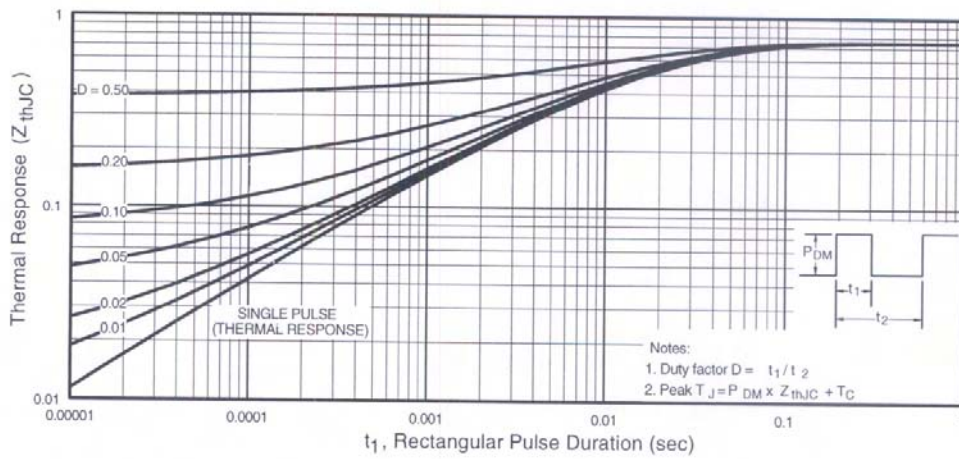

Fig 11. Maximum Effective Transient Thermal Impedance, Junction-to-Case
- ① Repetitive rating; pulse width limited by max. junction temperature. (See fig. 11)
- ② Starting $T_J = 25^\circ\text{C}$, $L = 2.4\text{mH}$